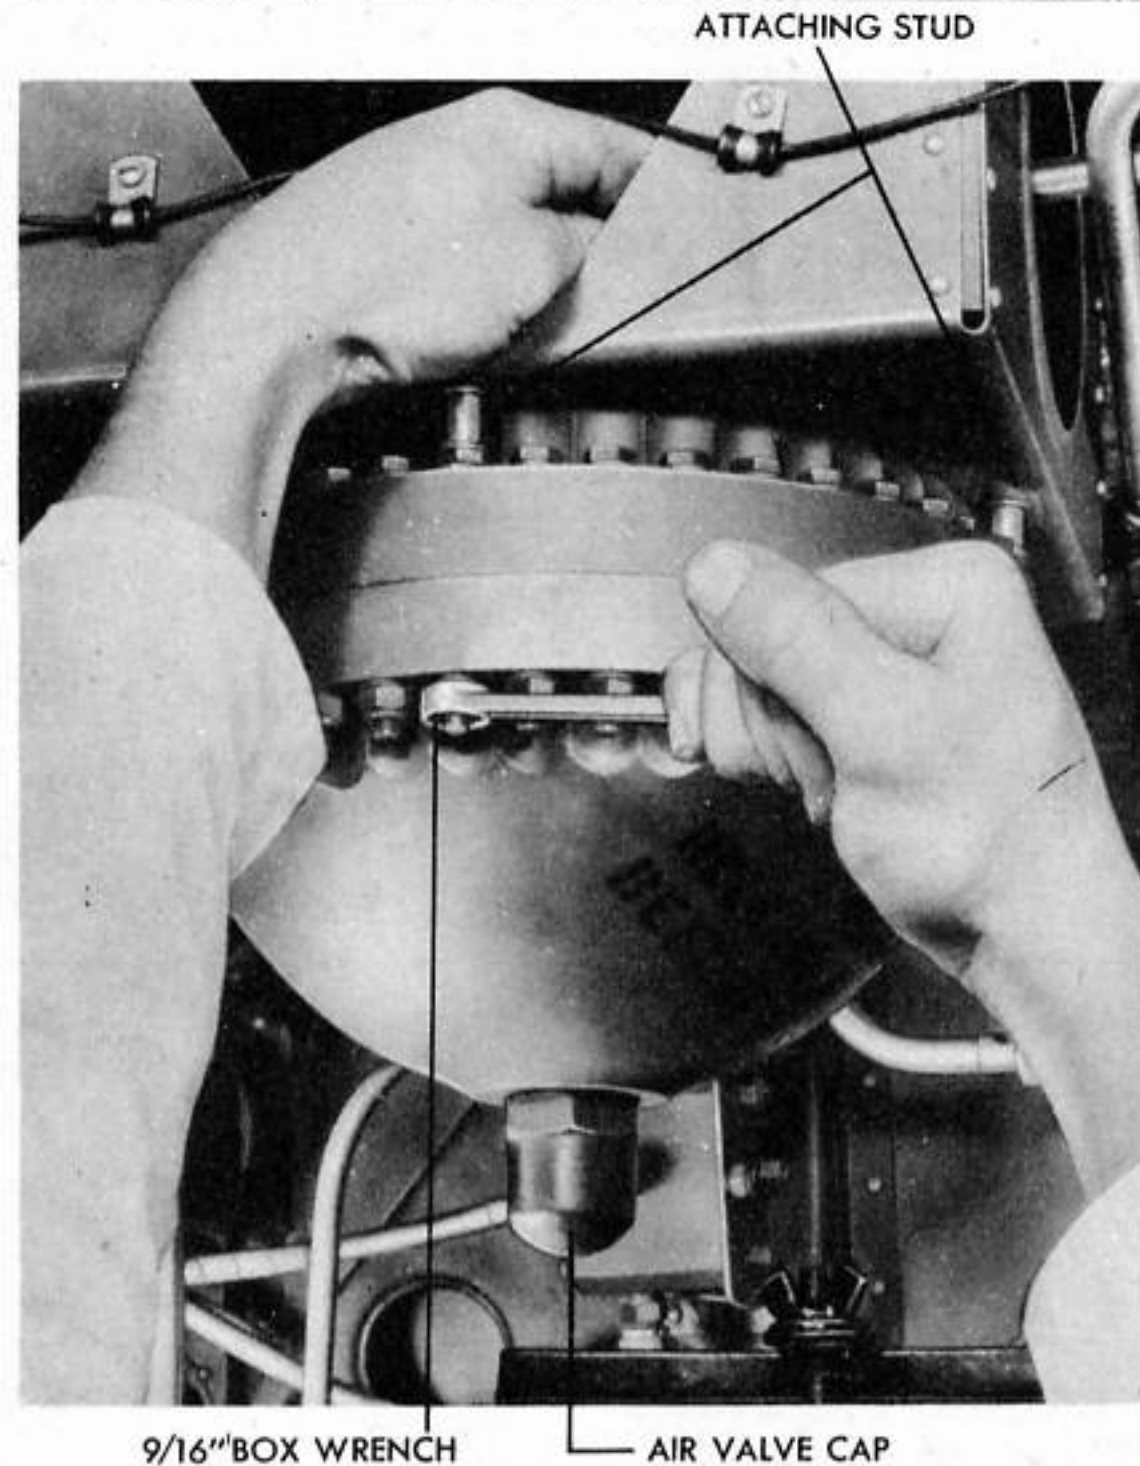

Figure 203 - REMOVING HYDRAULIC PRESSURE ACCUMULATOR
(3) REMOVAL OF PRESSURE ACCUMULATOR. (See figure 203.)